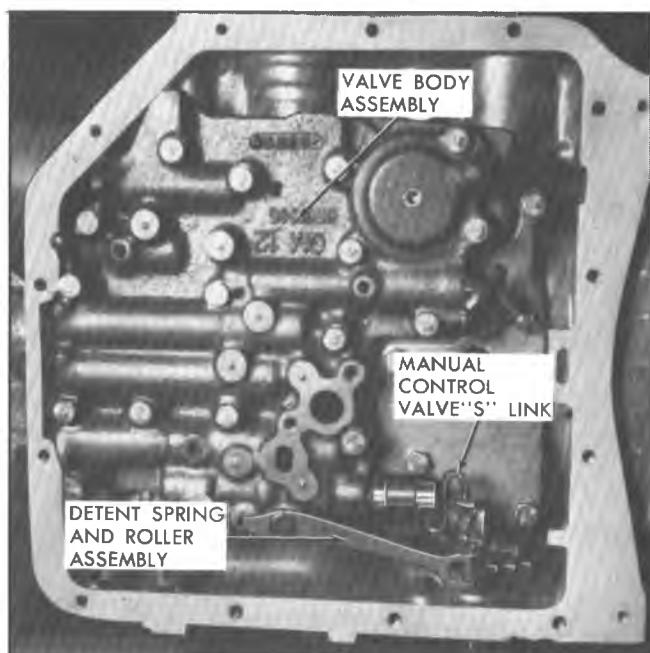

Fig. 11M-Detent Spring and Roller Assembly
1. Remove detent spring and roller assembly from valve body. Remove valve body to case attaching bolts (fig. 11M).